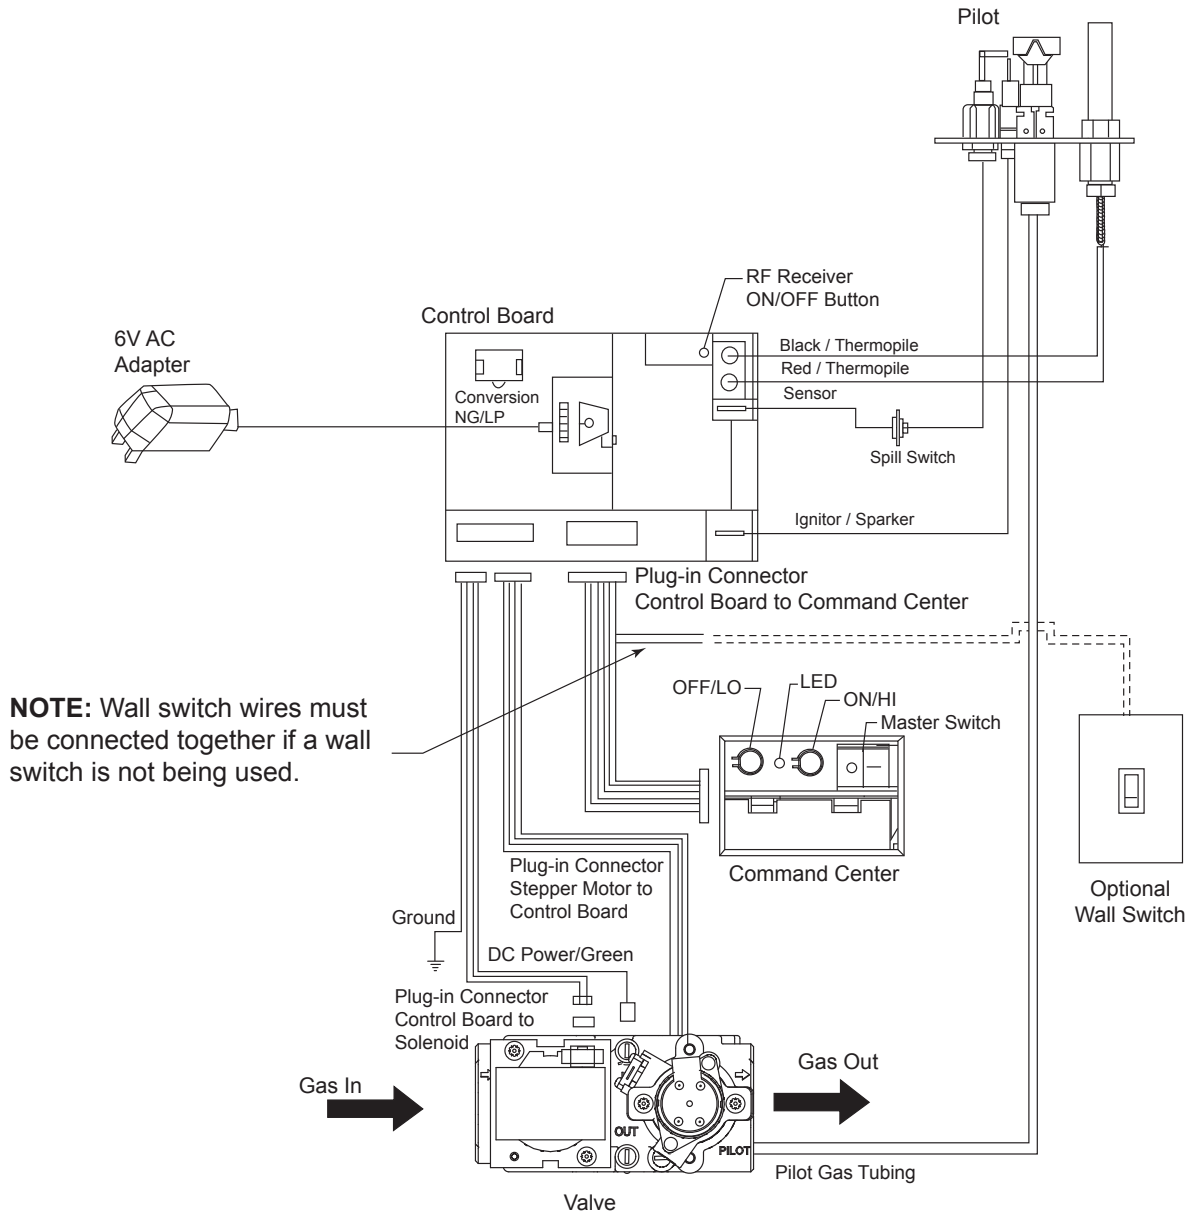

Figure 27 -
The wall switch wire connection is located off the 2 ft. wire harness from the control box to the command center. *Figure 27*. The connection is labeled “Wall Switch”. Unplug the male and female connectors and connect the two (2) low voltage wires provided. Run wire to desired location on wall. Up to 50 ft. of 18 ga. wire may be used if necessary. Attach wires to wall switch. Mount the wall switch in to junction box and screw on cover.
1. The RF receiver button located on the Control Board must be in the on position before the learn function can begin. Use paper clip to depress button. One beep for RF receiver ON or two beeps for RF receiver OFF will be given as confirmation. Refer to Figure 27 for location.